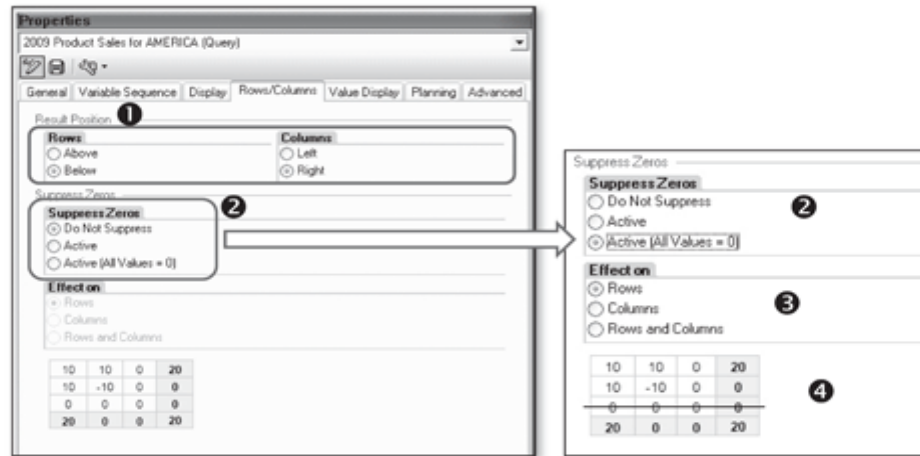

Figure 9.79 Query Properties – Rows/Columns Tab
The position of the result rows and result columns in a query is determined based on the settings maintained under the Result Position section (❶ of Figure 9.79). You can also decide to suppress the zero values from the query output in the Suppress Zeros section (❷). Further, you can decide if you want to apply the suppression either to rows or columns or both rows and columns in the Effect On section (❸). This tab also displays a preview of the settings chosen on this tab (❹).